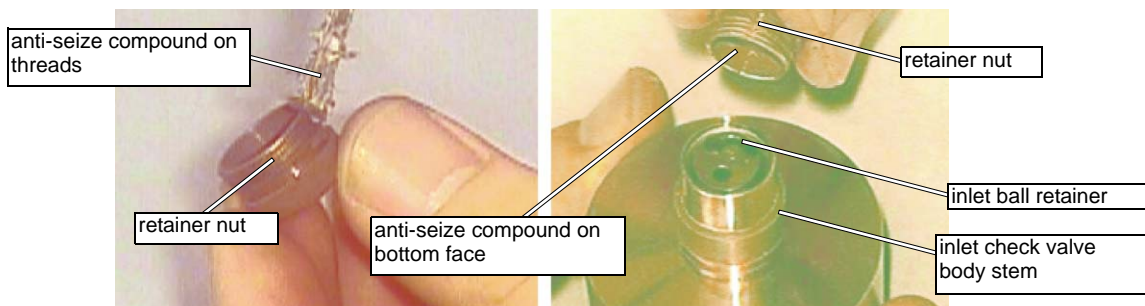

Figure 5-29: Applying Anti-seize Compound to Threads and Bottom Face of Retainer Nut
13. Apply anti-seize compound to the threads of the Retainer Nut and to the bottom face that contacts the Inlet Ball Retainer (Figure 5-29).